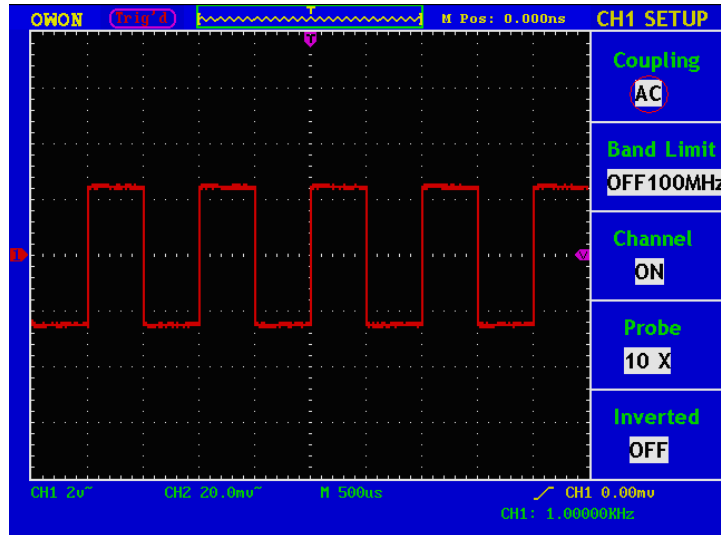
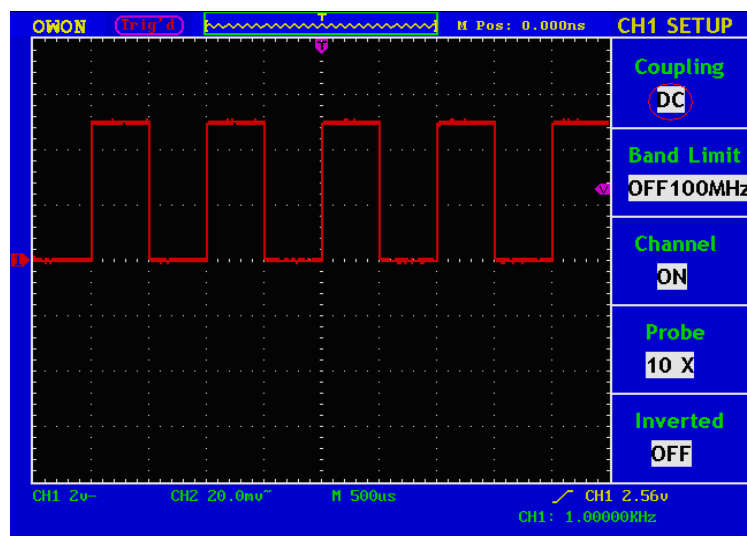

Fig. 5-2 AC Coupling Oscilloscope
Fig. 5-3 DC Coupling Oscilloscope
from input signal. See Fig.5-2.
- Press **F1** again to set "DC" mode, both AC and DC components get passed. See Fig.5-3.
The wave forms are shown as Fig.5-2 and Fig.5-3.